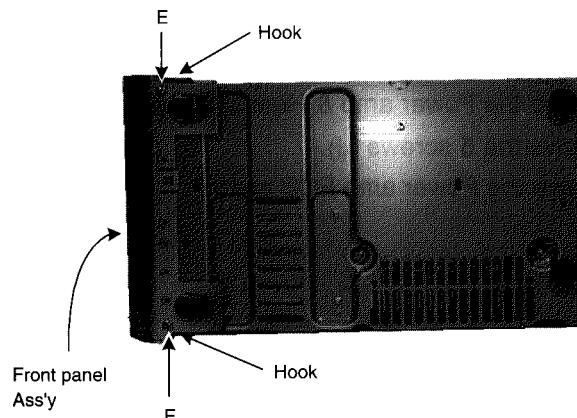

Fig.4
1. Remove 2 screws(E)fastening Front panel of the Bottom side (Fig.4).